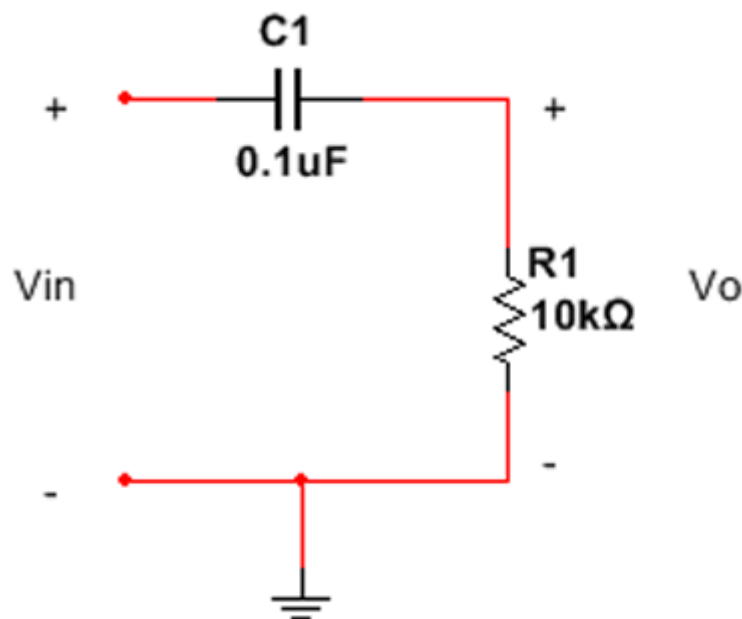

FIGURE 1.1: RC Circuit
- Find Transfer function of system shown in Figure 1.1